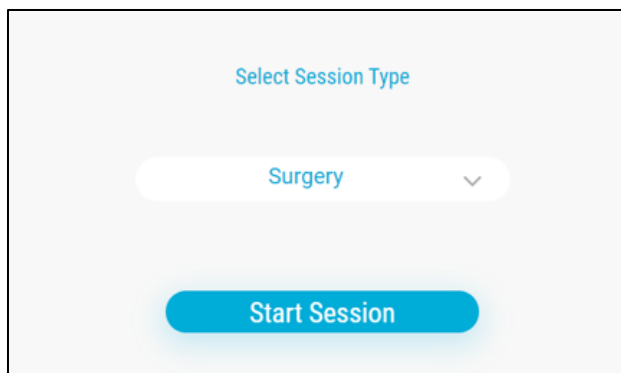

Figure 5.4: Select Session Type.
5. Select Session Type from the dropdown menu and touch the Start Session button to start your programming session (see Figure 5.4). The programming session will begin on the home page (see Section 6.2).